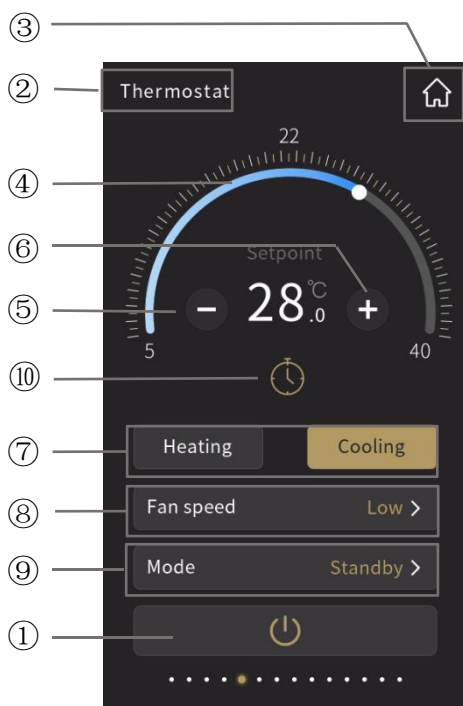
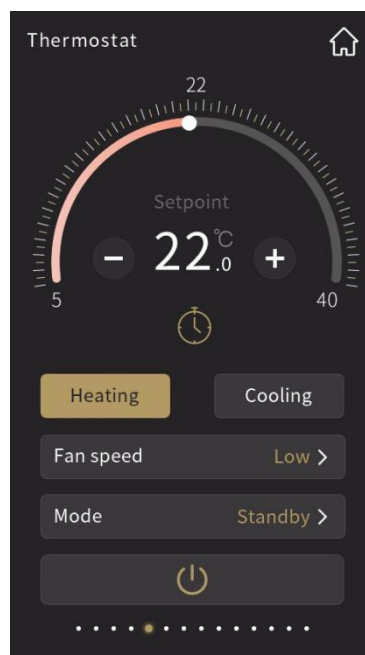

Fig.2.3.1
Fig.2.3.2
The colour of ring slider is to display according to current control mode, display red when heating mode as shown as Fig.2.3.2, display blue when heating mode as shown as Fig.2.3.1.
Fan speed adjustment of RTC set to be disable or enable through parameter configuration. When disable, there would be no fan speed function shown as Fig.2.3.1 on the interface; when enable, fan speed can be adjusted.
Operation mode of RTC set to be disable or enable through parameter configuration. When disable, there would be no mode option as shown as Fig.2.3.1 on the interface; when enable, operation mode can be selected.
- ⑩ Turn on timer function by touching this icon;
Icon⑩ on indicates timer turn on; icon⑩ off indicates timer turn off. Timer function can be enabled via the parameter configuration. When timer function is disabled, there would be no timer icon as shown as Fig.2.3.1 on the interface; when enabled, timer can be configured.